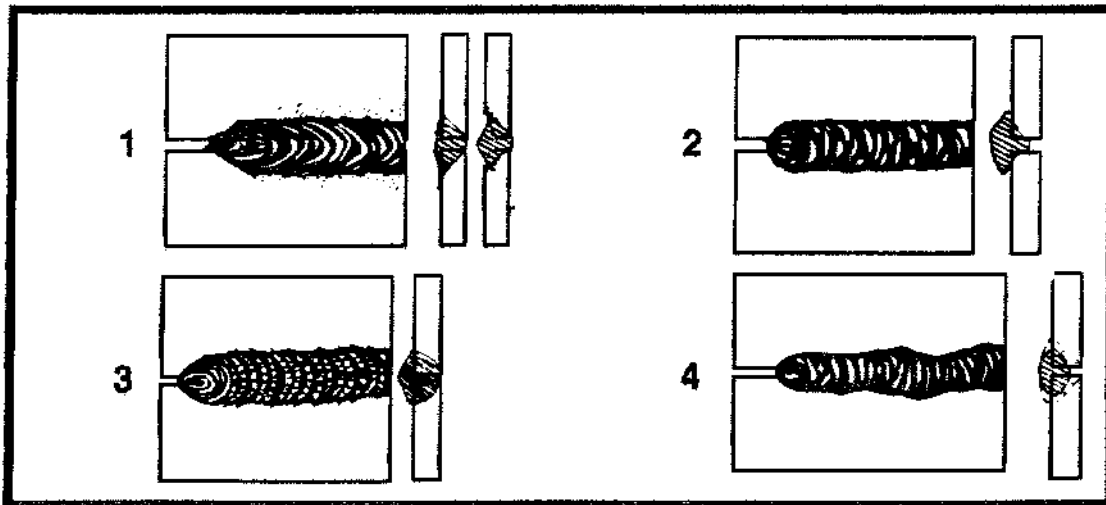

Fig. 9.23. Welds.
(2) A discontinuity may or may not affect the usefulness of a part.
23. (Refer to figure 9.23) Identify the weld caused by an excessive amount of acetylene.
24. (Refer to figure 9.23) Select the illustration which depicts a cold weld.